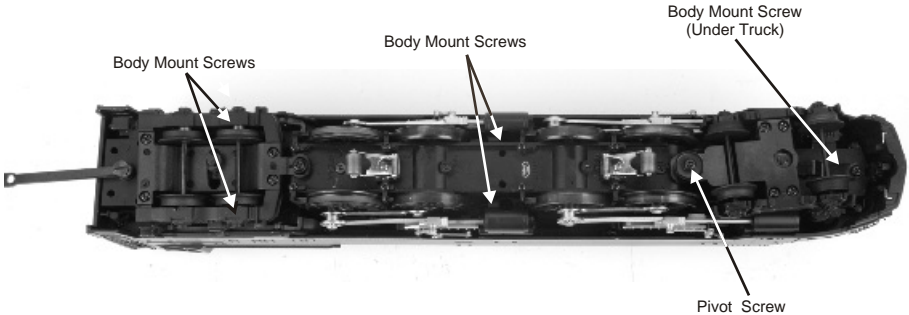

Figure 5: Removing the Body
1. To replace the headlight in this model you will have to separate the boiler from the chassis by removing the body mount screws shown in fig 5.
If you experience poor or no smoke output when the smoke unit is on and has fluid, check the wick to see if it has become hard, blackened, and unabsorbent around the heating element. To remove the smoke unit you will first have to remove the boiler shell (by removing the body mounting screws shown in Fig. 5 on pg. 12).